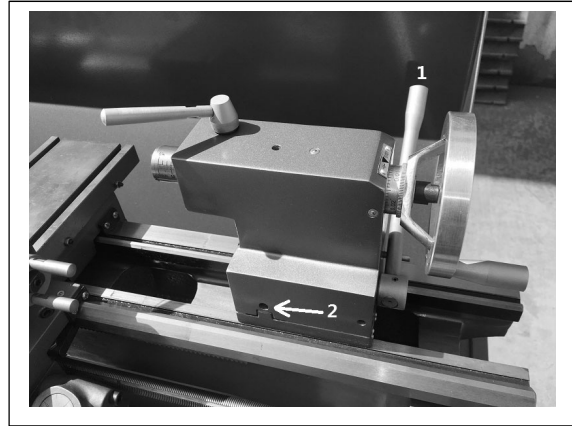

Figure 16
To off-set the tailstock, loosen locking lever (1, Figure 16), then loosen the front adjusting screw (2) and take up the same amount by tightening the opposite rear adjusting screw until the desired taper has been reached. Tighten the front screw to lock the tailstock in position. The workpiece must be held between two centers and driven by a faceplate and driver dog.